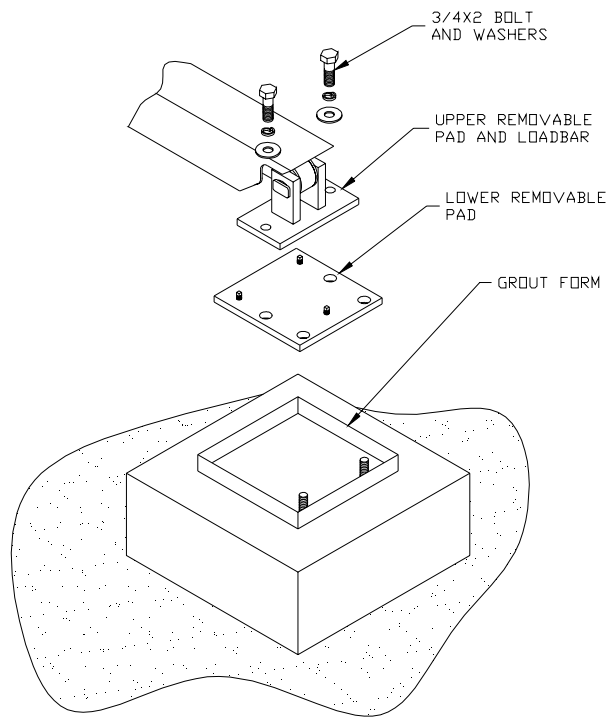

Figure 7 - Grouted Installation
5. Place the grout forms around the pads (see Figure 7).